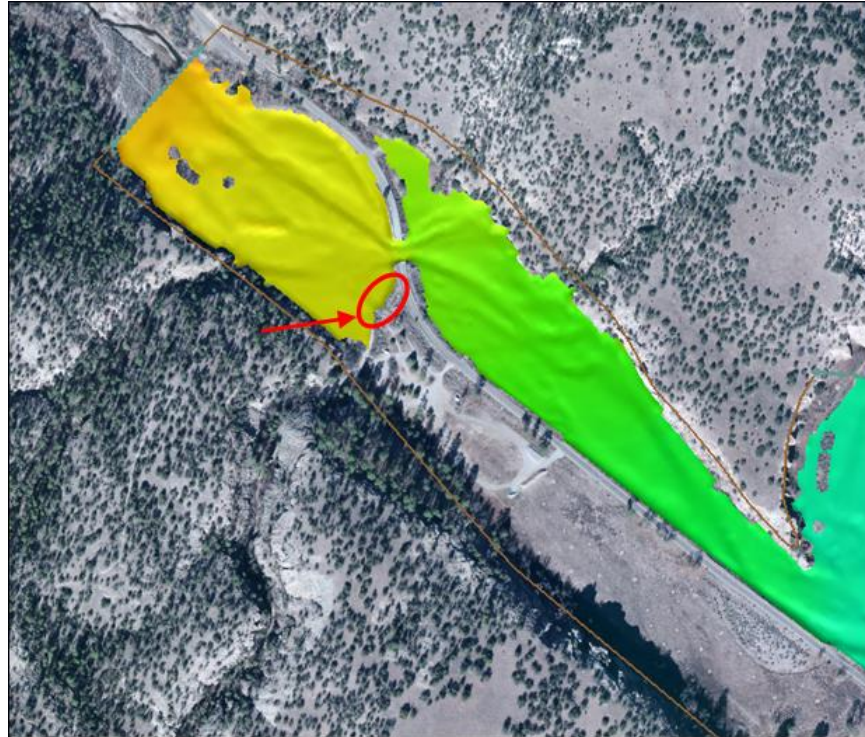

Figure 2 Weir location
The weir structure will be created along a berm near the bridge that is located just upstream of the confluence (see Figure 2). In SMS, weir boundary conditions are defined by creating two arcs that represent the upstream and downstream faces of the weir. SMS also requires that the materials coverage be edited to properly define the weir BC.
1. **Zoom**  into the location shown in Figure 2.